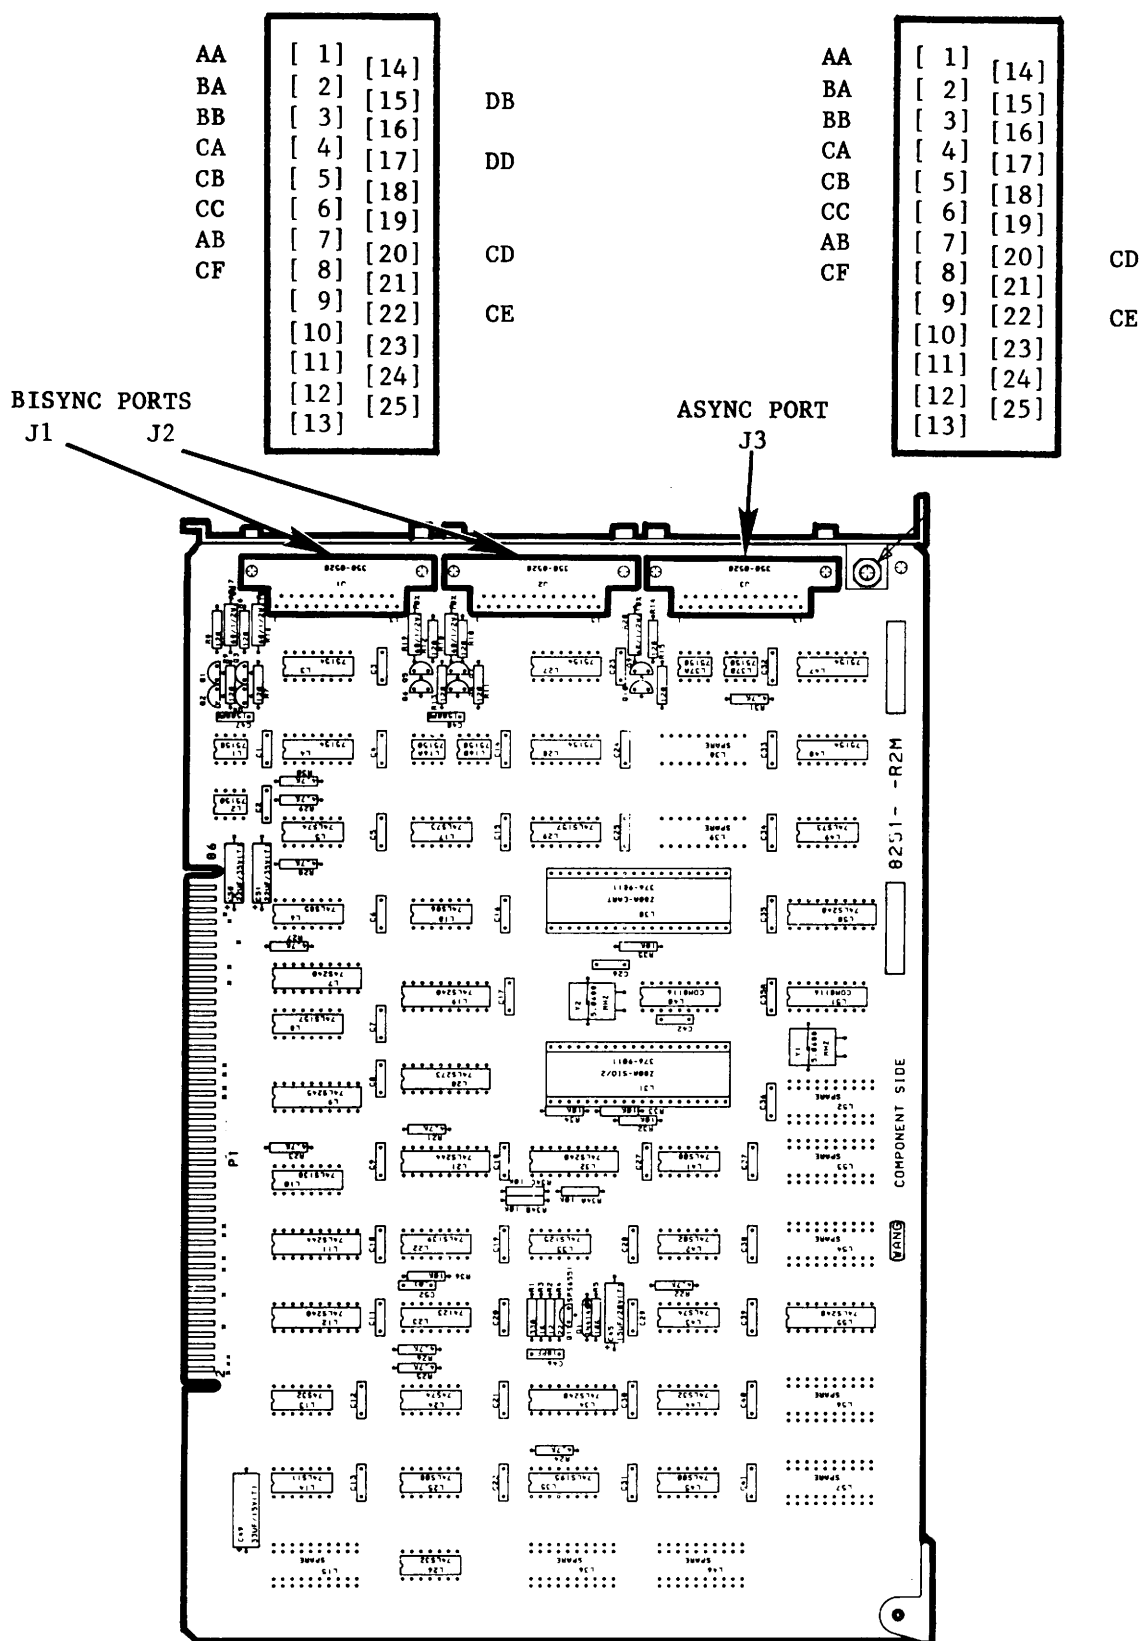

Figure 2-18. MCC Board 8251 Port Locations
The MCC option has three (3) RS232 ports located on the rear panel. See Figure 2-18 for locations. Two of the ports (J1 and J2) are BISYNC and all three ports are ASYNC. For synchronous emulation either Port 1 or Port 2 can be used. For asynchronous emulation either Port 1, 2, or 3 can be used.